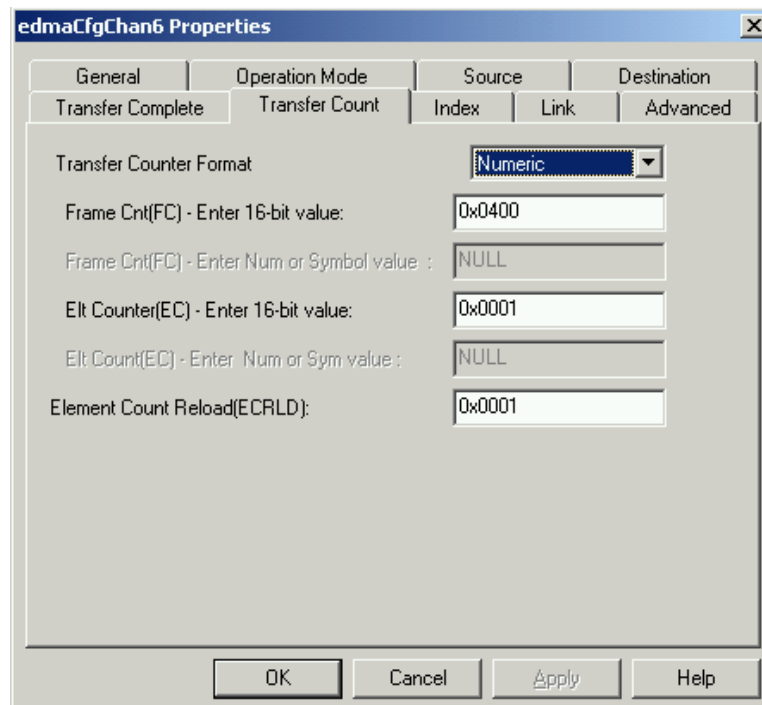

Figure 17. EDMA Chan6 Transfer Count Tab Options
15. In the Transfer Count tab, select options shown in Figure 17. Frame Count is set to 0x0400, indicating a total transfer of 1024 samples.